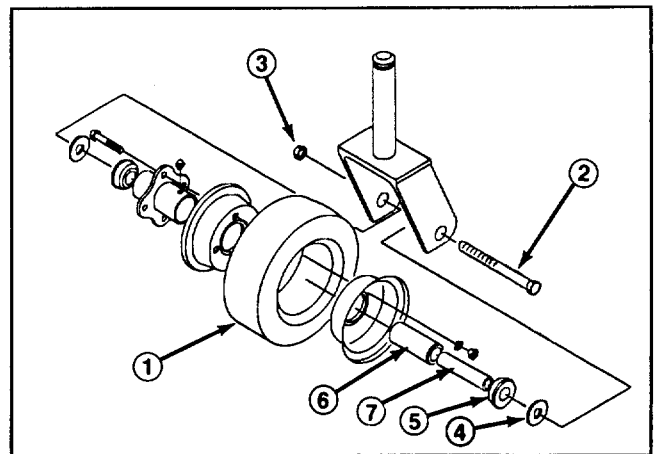

Figure 11
1. Remove locknut from capscrew holding castor wheel assembly between castor fork (Fig. 11). Grasp castor wheel and slide capscrew out of fork.
**Note:** Account for the two flat washers (Fig. 11).
2. Tip wheel to the side and allow roller bearing and spanner bushing to fall out (Fig. 11).
6. Pump more grease through grease fitting on wheel (Fig. 11) until bearing is greased thoroughly.